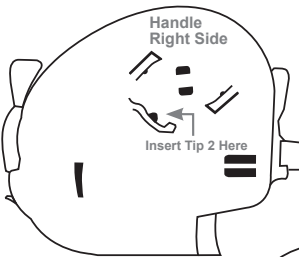

Figure 9
5.1.1 If needle does not retract, insert Tip 2 of Handle Release Tool (**Figure 8**) into hole on right side of case (**Figure 9**). Tip 3 should point towards Retraction Lever. While still inserted, turn and hold Handle Release Tool clockwise with light finger pressure, approximately 5-10 degrees, and gently squeeze the Retraction Lever.